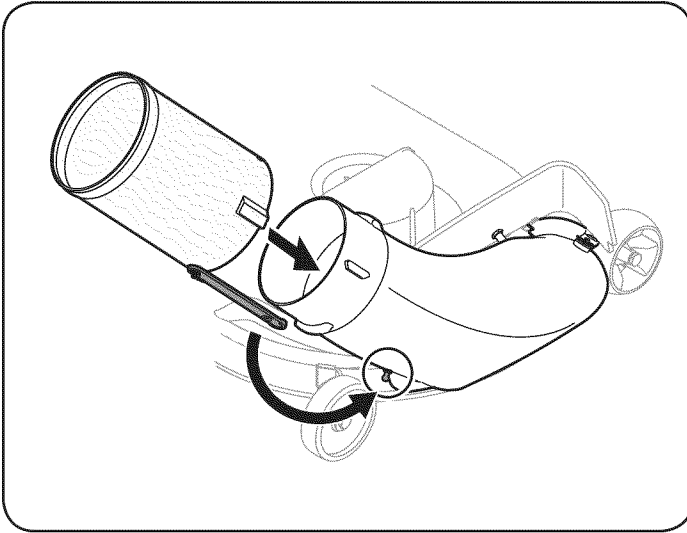

Figure 23
15. Install the chute tube extension onto the chute elbow by lining up the tabs and sliding the adapter over the chute elbow, as in Fig. 23. Secure the chute adapter by stretching the chute strap and hooking it onto the grass-catcher pin previously installed.